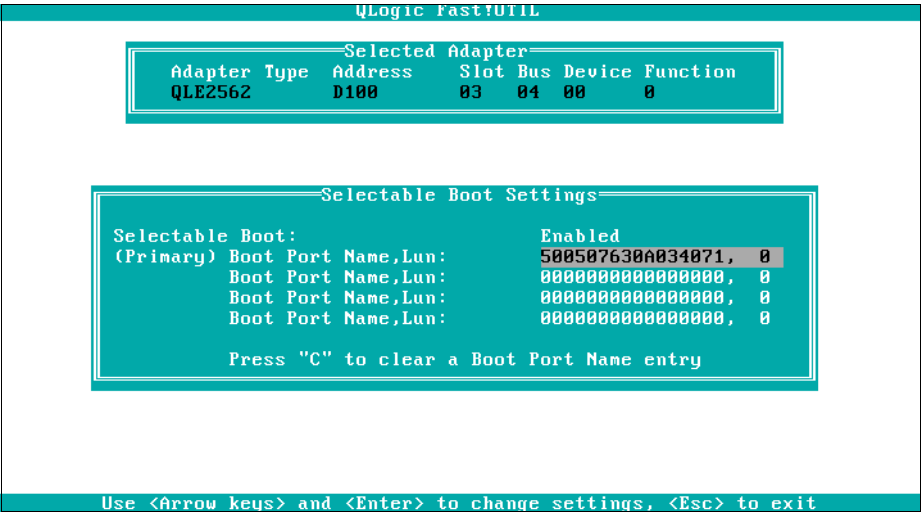

Figure 3-22 Boot LUN
13. After selecting the appropriate storage Boot Volume, you come back to the previous panel. It will now have information under (Primary) Boot Port Name, LUN for the device you selected in the previous step, as shown in Figure 3-22.